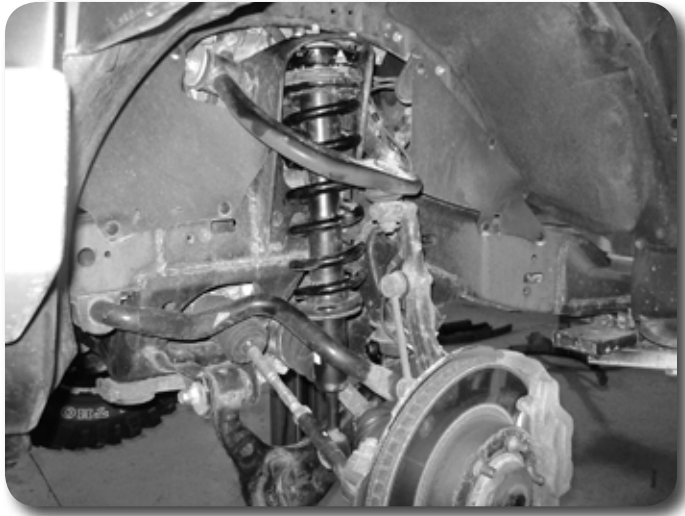

Figure 6
10. Install the strut assembly back in the vehicle and fasten to the original frame mount with the provided 10mm nuts and washers. Figure 6 Torque nuts to 45 ft-lbs.